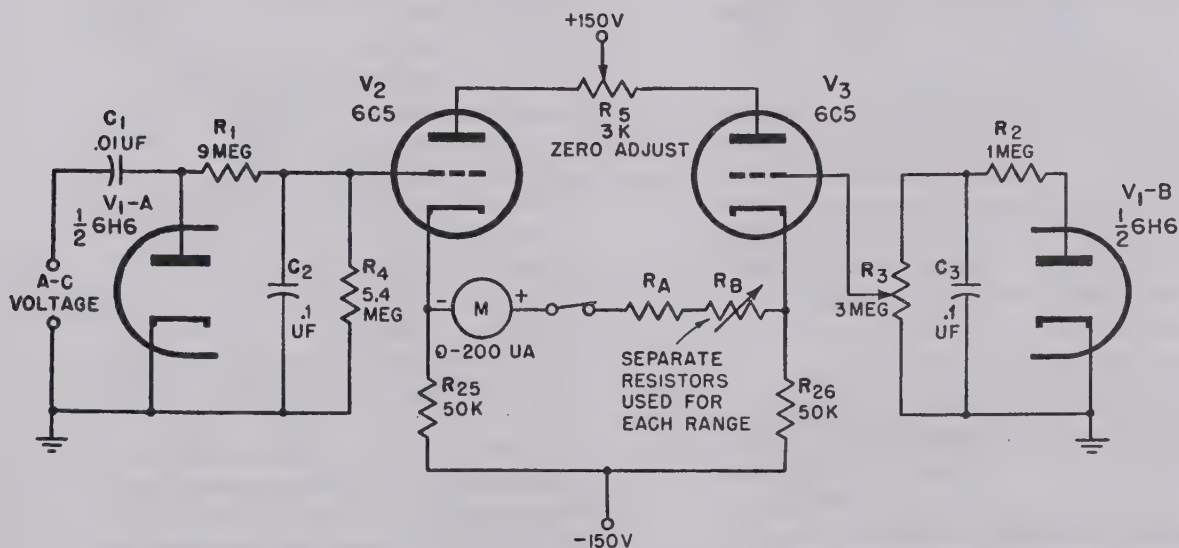

Figure 41. A circuit for measuring a-c voltages.
- (7) A probe containing a dual diode, which rectifies the a-c voltage before it is applied to the amplifier circuit, is used when a-c voltages are being measured (fig. 41). Although the diode tube is shown adjacent to the schematic of the amplifier circuit, it is located in the probe and connected to the voltmeter circuit by a cable. The voltage to be measured is applied to one-half, $V_1\text{-A}$, of the dual diode; the other half, $V_1\text{-B}$, is connected to the grid of V_3 .
- (8) With no voltage applied to rectifier diode $V_1\text{-A}$, the plate of the diode is approximately 1 volt negative in relation to ground. This voltage, called contact potential, is the result of electrons leaving the heated cathode with